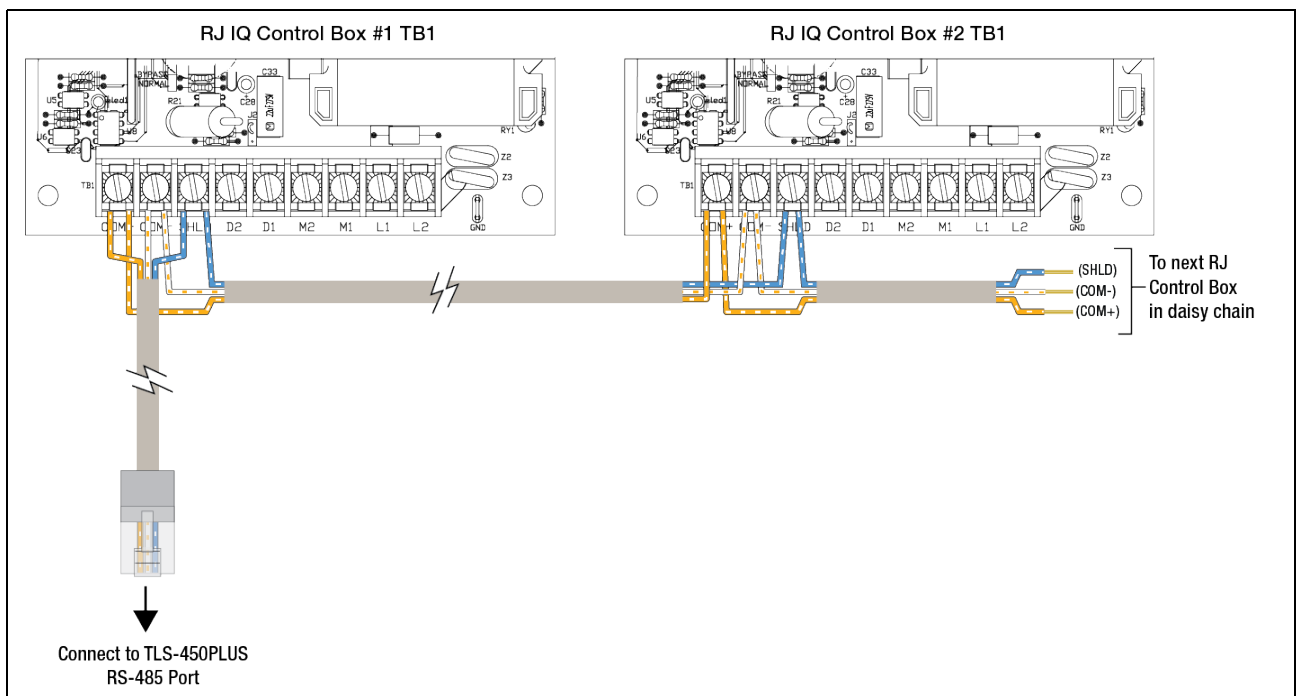

Figure A-10. Attaching Comm Cables To RJ IQ Control Boxes (Belden 3106A Cable Shown)
1. Open each IQ Control Box cover and attach the RS-485 comm cable wires as shown in Figure A-10.